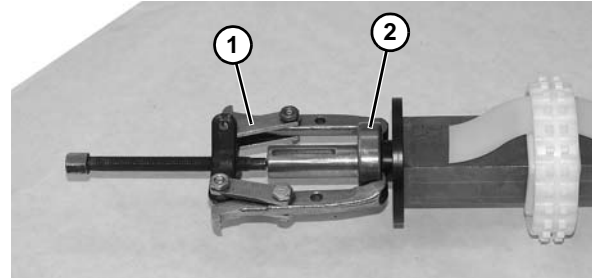

Figure 69
- Using puller (**Figure 69, item 1**), as shown, remove bearing (**Figure 69, item 2**) from shaft assembly. Repeat on opposite side, if needed.